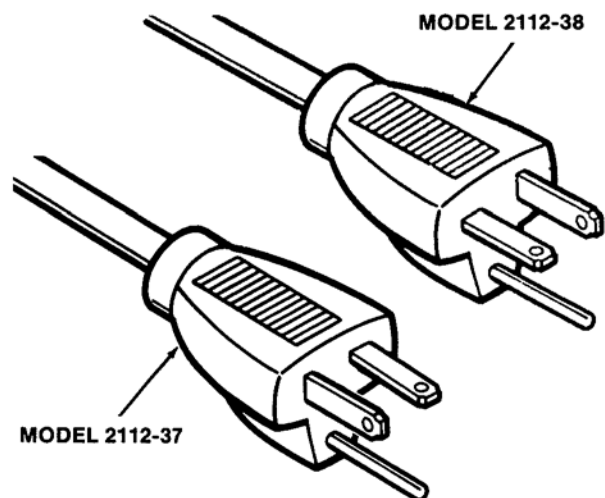

Figure 5. Electrical Plug
- E. Connect the power cord. The plug is designed for 208 and 230 volt/20 amp duty for the Model 2112-38 and 115 volts for the Model 2112-37. The unit must be connected to a properly grounded receptacle. The electrical cord furnished as part of the freezer has a three prong grounding type plug (Fig. 5). The use of an extension cord is not recommended. If one must be used, use one with a size 12 gauge or heavier with a ground wire. **Do not** use an adaptor to get around grounding requirement.